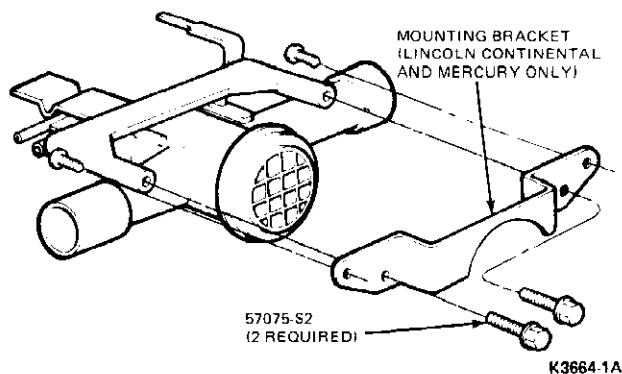

FIG. 31 ATC Sensor Assembly
3. Remove the retaining screws (2) securing the sensor assembly (sensor and bracket on Mercury and Lincoln) to the instrument panel and remove the sensor assembly (Fig. 31).